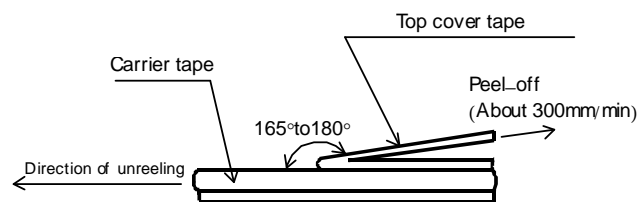
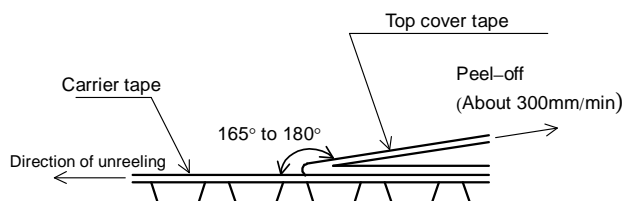

Figure-9
Figure-10
- 5). The peel strength of the top cover tape shall be with in 0.1N to 0.5N on the test method as shown in the following RLC10, 16, 20, 32: Figure-9, RLC35, 50, 63: Figure-10.